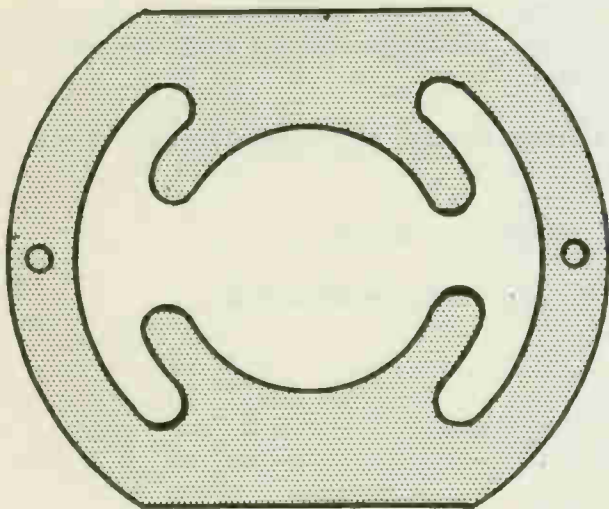

Fig. 2
b. Non-compensated Universal motors, Fig. 2.